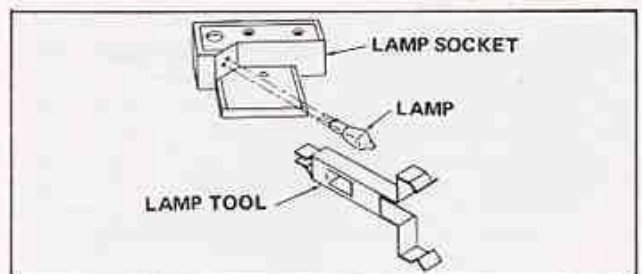

Figure 29. Proper Position of Lamp Tool for Removing 1120 Lamp
3. Use narrow end of Lamp Tool to remove Tungsten Halogen Lamp from socket (Fig. 29). TO AVOID FINGERPRINTS ON ENVELOPE OF NEW LAMP, PLACE IT IN 1031-1 LAMP TOOL BEFORE INSERTING INTO SOCKET.